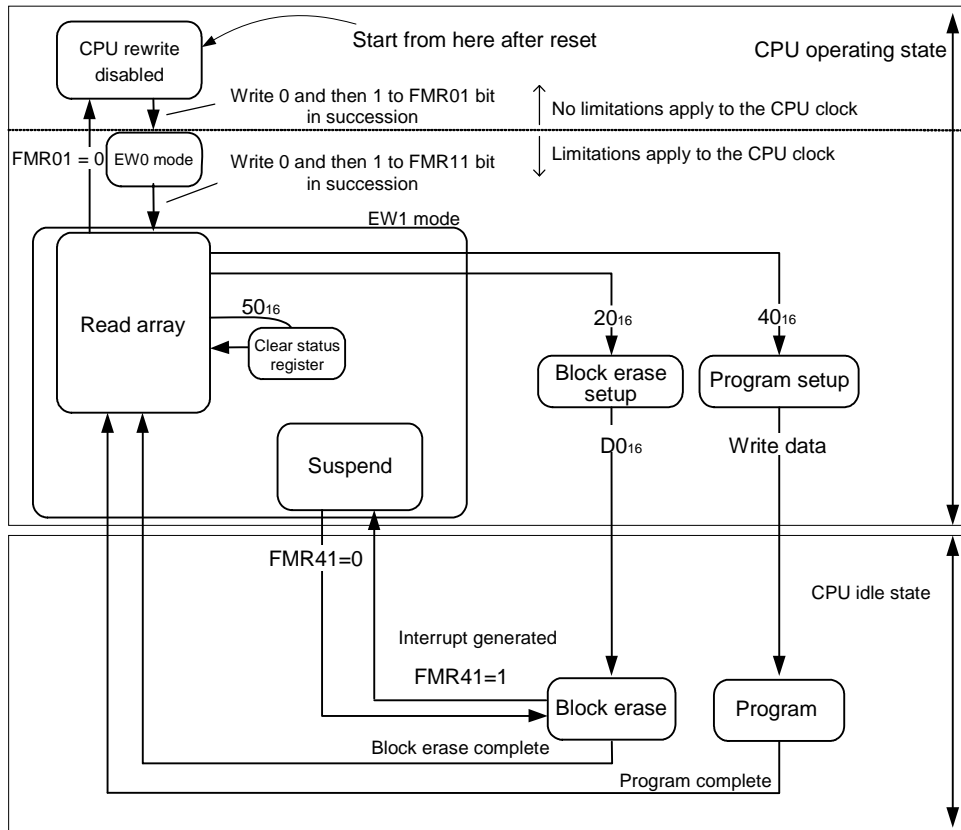

Figure 3-3 Flash Memory Operation Modes
In Figure 3-3, “Flash Memory Operation Modes,” transitions of “xx4016,” etc. are software commands. “FMR41 = 0” means setting the indicated register bit to 0.
**For details about the change of flash memory modes after the CPU started programming the flash memory, refer to Figure 3-3, “Flash Memory Operation Modes.”**
**For details about the change of flash memory modes after the CPU started erasing the flash memory, refer to Figure 3-3, “Flash Memory Operation Modes.”**